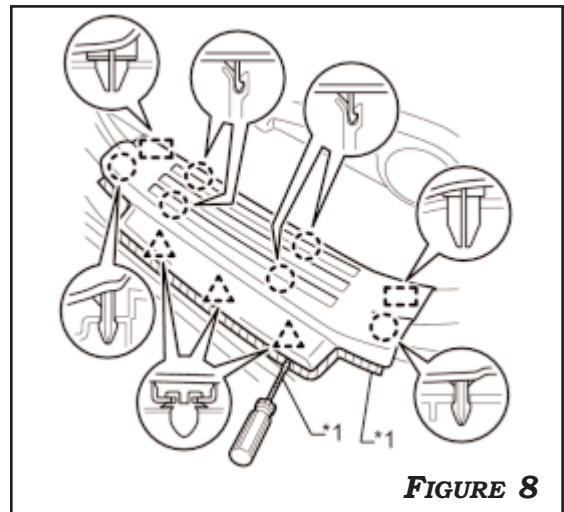

FIGURE 8
7. USE TRIM TOOL TO DISENGAGE THE 9 CLIPS AND REMOVE THE LEFT REAR DOOR SCUFF PLATE. **FIGURE 8**